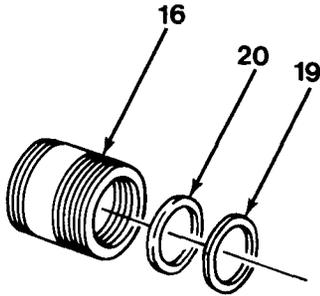

Figure 13-10
1. Install U-cup seal (20) and wiper (19) in head gland (16, Figure 13-10).